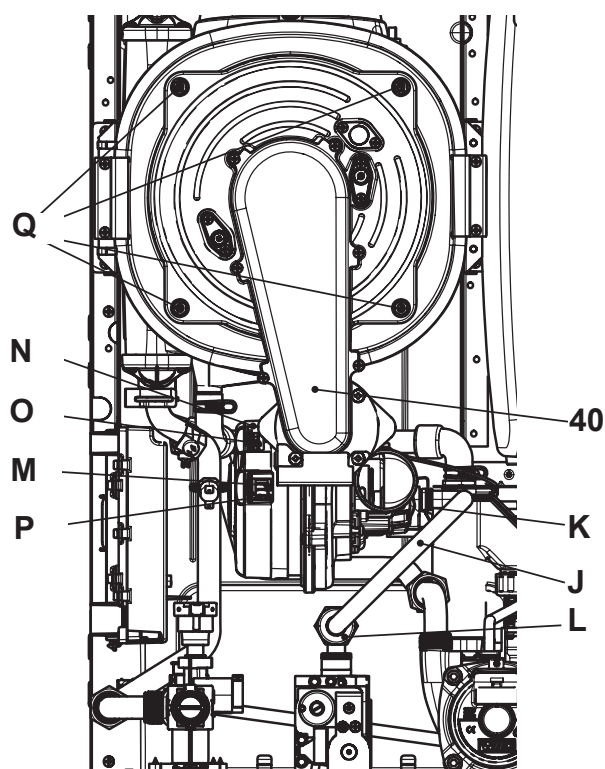

Fig. 9.12
- Insert a flat screwdriver in the connector recess P and lever towards the bottom, disconnect the connector at the same time M by pulling towards the front M (Fig. 9.12).
- Disconnect the fan connector N by pressing the plastic hook O positioned at the bottom part of the connector (Fig. 9.12).
- Unscrew screws Q and remove the fan burner unit 40 (Fig. 9.12)
- Unscrew the Q screw nuts and remove the burner group fan 40 (Fig. 9.12)
Removing the fan burner unit 40 in Fig. 9.12.